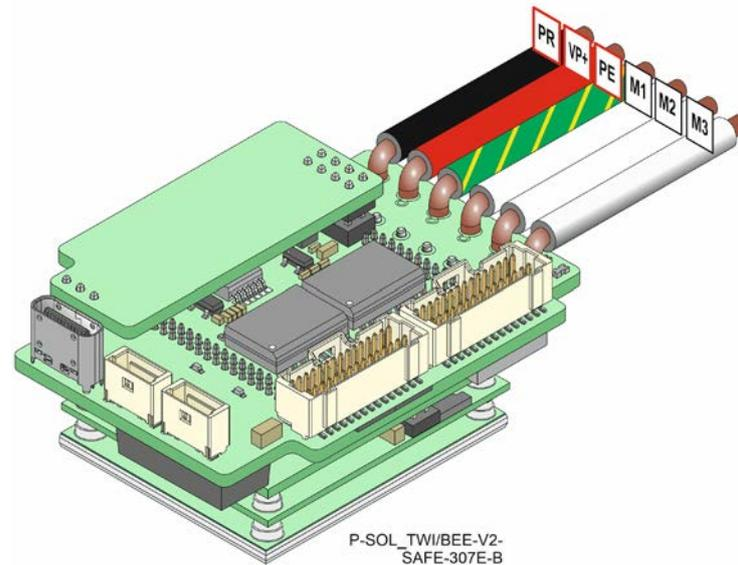

Figure 13: Connecting the Main Power Wires
3. Connect the VP+ and PR wires to the terminals on the servo-drive as shown in Figure 13.